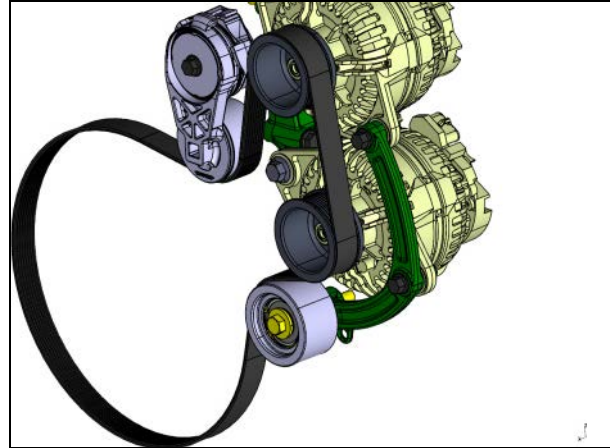

FIGURE 26
14. Install the alternator belt (FIGURE 26)